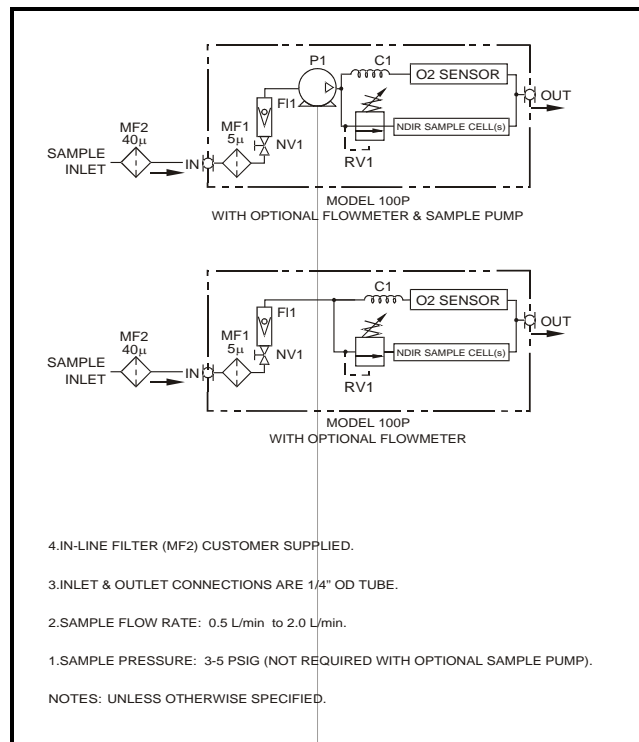

Figure 8-1 Paramagnetic Oxygen Sample flow
- e) Loosen the locking screw that secures the adjusting screw for positioning the photo-sensor on the detector assembly. Only loosen the locking screw enough to permit the necessary adjustment (see Figure 8-1.)